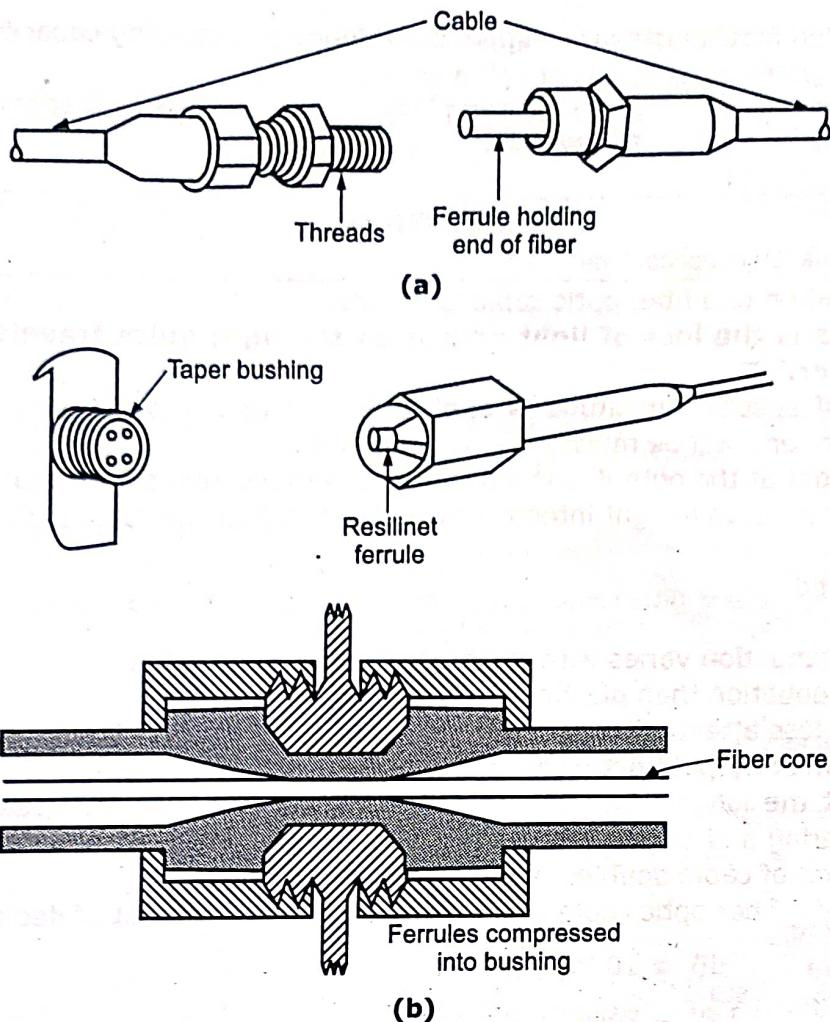

Fig. 2.16: Details of Fiber-Optic Ferrule Connector
A typical Ferrule connector is shown in Fig. 2.16 (a).
- Fig. 2.16 (b) shows how the connector aligns the fibers.